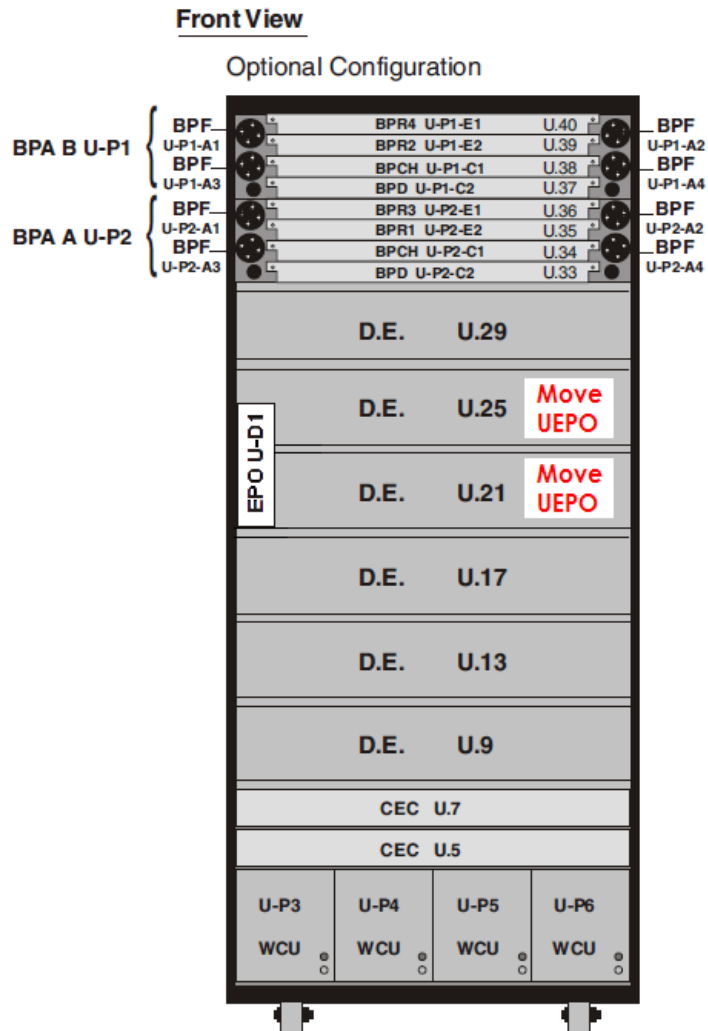

Figure 14: Disk Enclosure and UEPO Location Info
- STEP 14 Is the Disk Enclosure being serviced located in U21 or U25 (see Figure 14)?